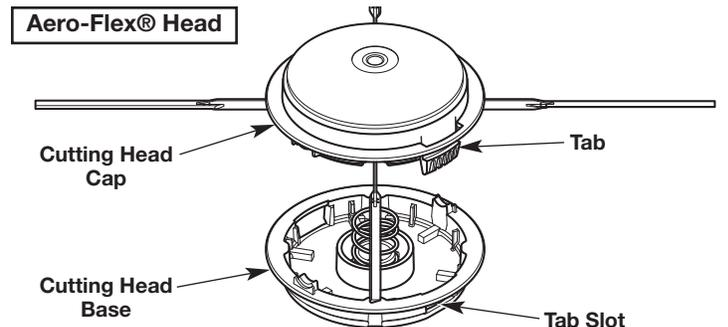

Fig. 8
3. Align the tabs on the cutting head cap with the tab slots on the cutting head base (Fig. 8). Push the cutting head cap onto the cutting head base until both tabs snap into place.
2. Disconnect the cutting head cap from the cutting head base: Firmly press a tab on the cutting head cap (Fig. 8). Use your thumb. If necessary, use a flat-head screwdriver:
- c. While holding the screwdriver in place, gently twist the screwdriver to unlock the tab from the tab slot (Fig. 8).